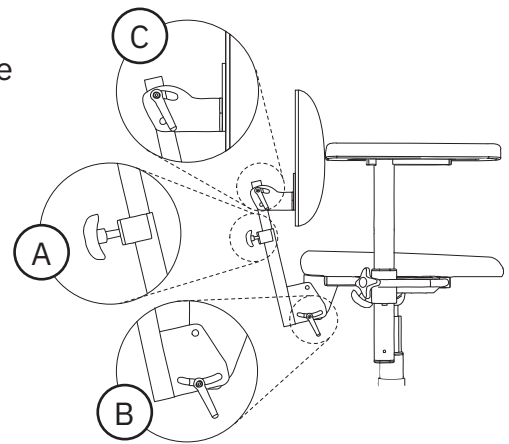

Figure 5.8. ErgoMedic backrest.
ErgoMedic is a lightly cupped back support. The back support is available in sizes from 330 x 160 mm. The Standard X-ray backrest mechanism's back support has adjustable height (A), adjustable backrest mechanism angle (B) and adjustable back support angle (C) (see Figure 5.8). The back recliner can be adjusted in the range of 15° forward to 30° backwards.